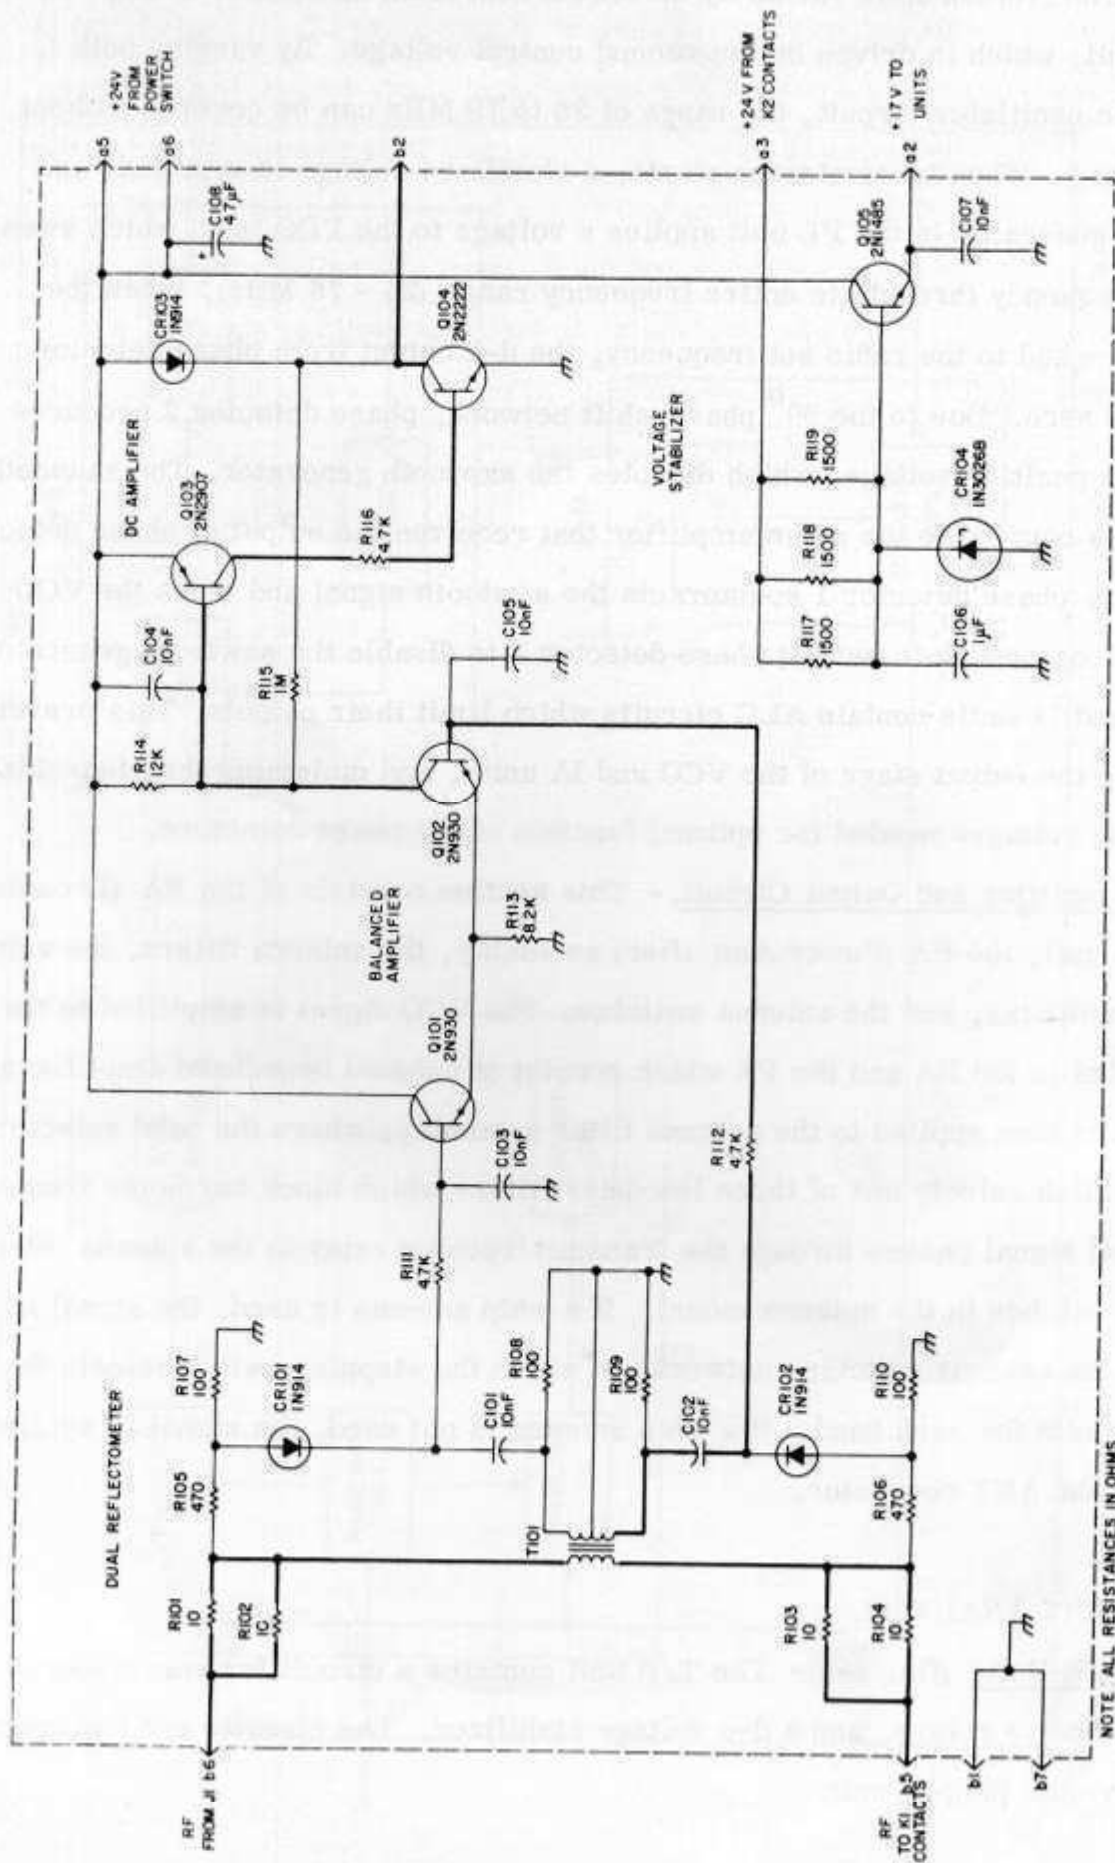

Figure 4-3. T/R Unit A100, Schematic Diagram.
a. T/R Unit. (fig. 4-3)- The T/R unit contains a circuit for energizing the transmit/receive relays, and a d-c voltage stabilizer. The circuits are incorporated in a two-module plug-in unit.